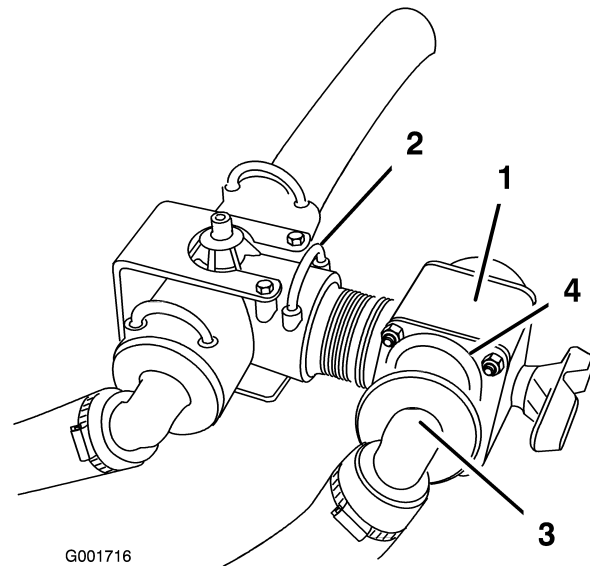

Figure 9
5. Connect the boom supply hose to the open port on the control valve and secure it with the retainer removed previously (Figure 9).
4. Install the new control valve into the rear facing open port on the supply tee and secure it with a new retaining fork (Figure 9).